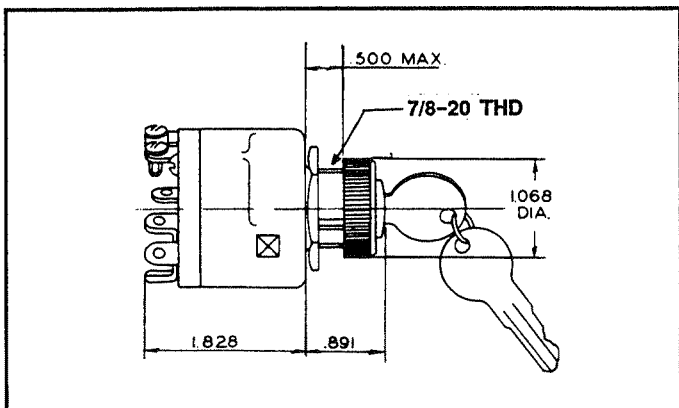
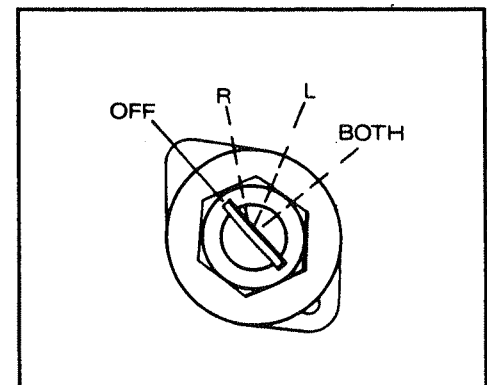

Figure 2. Switch Dimensions
Figure 1. Switch Functions
- G. Numbers in parentheses following part nomenclature refer to item numbers in illustrated Parts List Figure 1 and 2 unless otherwise specified. Example: (1-5) is item 5 in IPL Figure 1; (2-1) is item 1 in IPL Figure 2.
A. Ignition switches manufactured by Teledyne Continental Motors, Aircraft Products, Mobile, Alabama 36601 are designed to provide control of magneto operation. Optional starter solenoid control, electrical primer control, and key or lever designs are available as shown in Figure 1.
C. Typical ignition switch mounting dimensions are shown in Figure 2. Dimensions are in inches.